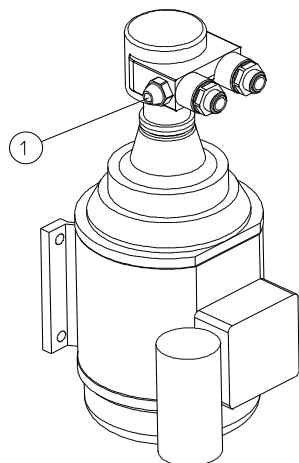

Fig. F-3: Pump
2. Use the adjustment valve operating pressure (refer to fig. F-3, no. 1) to throttle the pump in such a way that the specific permeate flow rate 125 l/h is achieved.